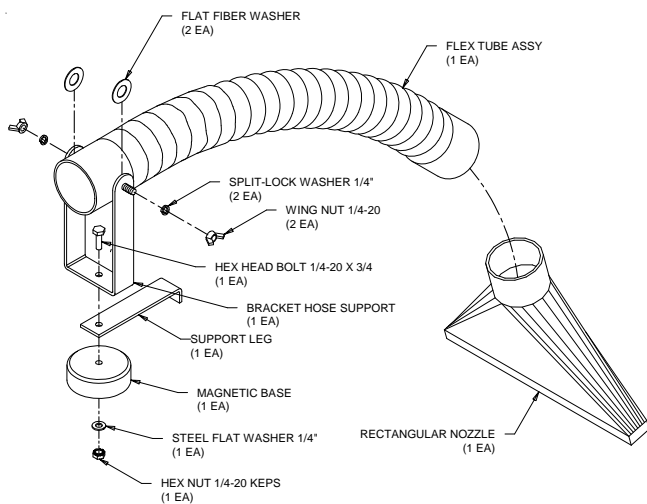

Figure 2
- (1) Flexible Metal Hose/Magnetic Base Component Parts. (See Figure 2 for Individual Parts Included)
5. Assemble the flexible metal hose and nozzle per Figure 2.